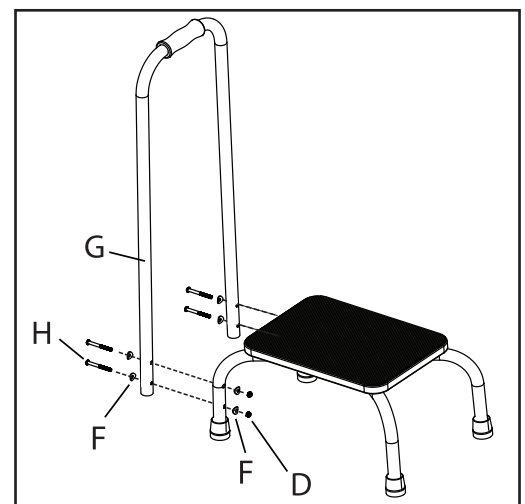

Fig. 3
3. Attach the Handrail (G) to the assembled foot stool by aligning the four holes in the handrail tubing with the four holes on the two legs of the assembled foot stool as shown in Fig. 3. Insert a 2-11/32" Handrail Screw (H) through a Washer (F) and through the leg section. On the back side, add another Washer (F) and secure with a Nylon Insert Lock Nut (D). Repeat this procedure for the remaining three holes. Using a Phillips head screwdriver, tighten each screw by turning clockwise with the supplied wrench secured on the lock nut.